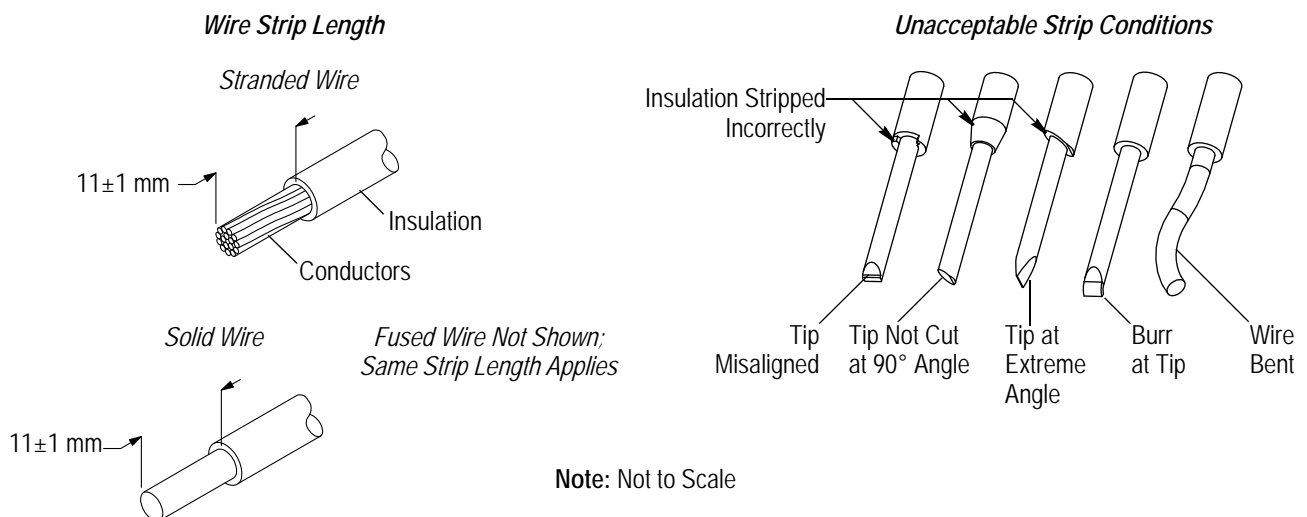

Figure 2
The LED holder accepts stranded, solid, or fused wire sizes 22, 20, and 18 AWG. It is recommended to use Underwriters Laboratories Inc. (UL) Appliance Wiring Material (AWM) Style 1007. The wire must be stripped within the dimensions provided in Figure 2.